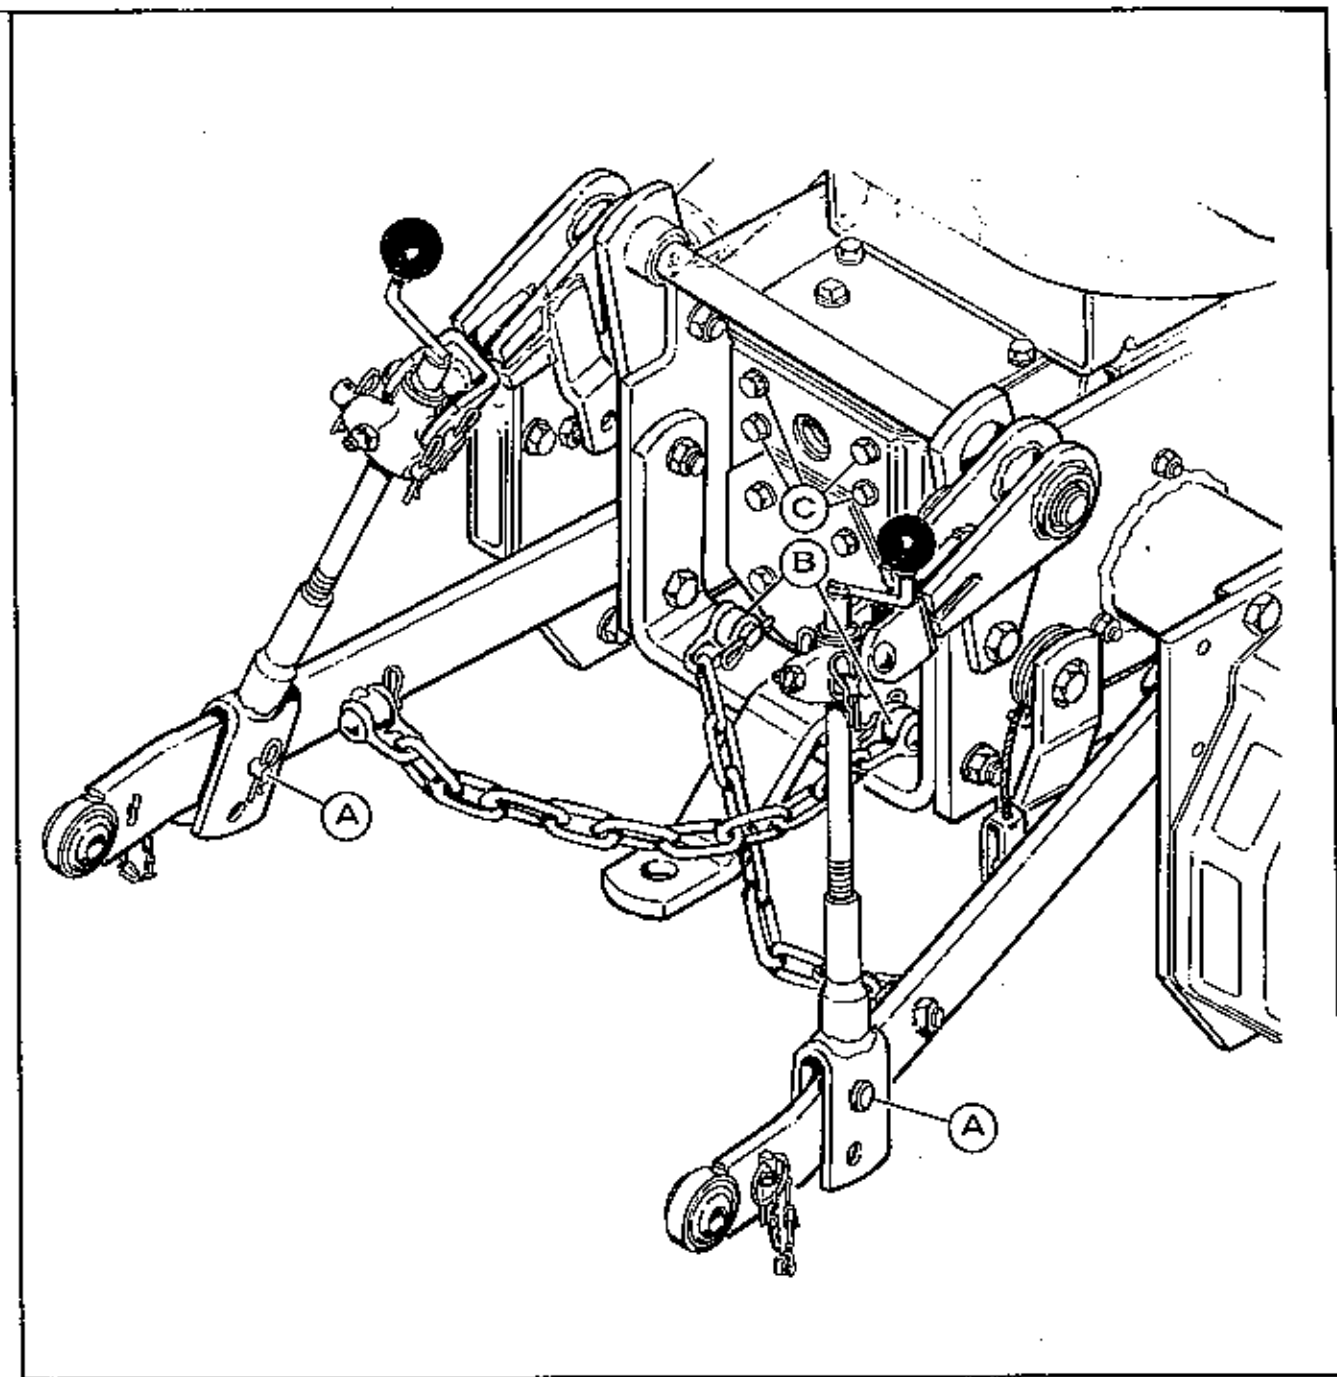
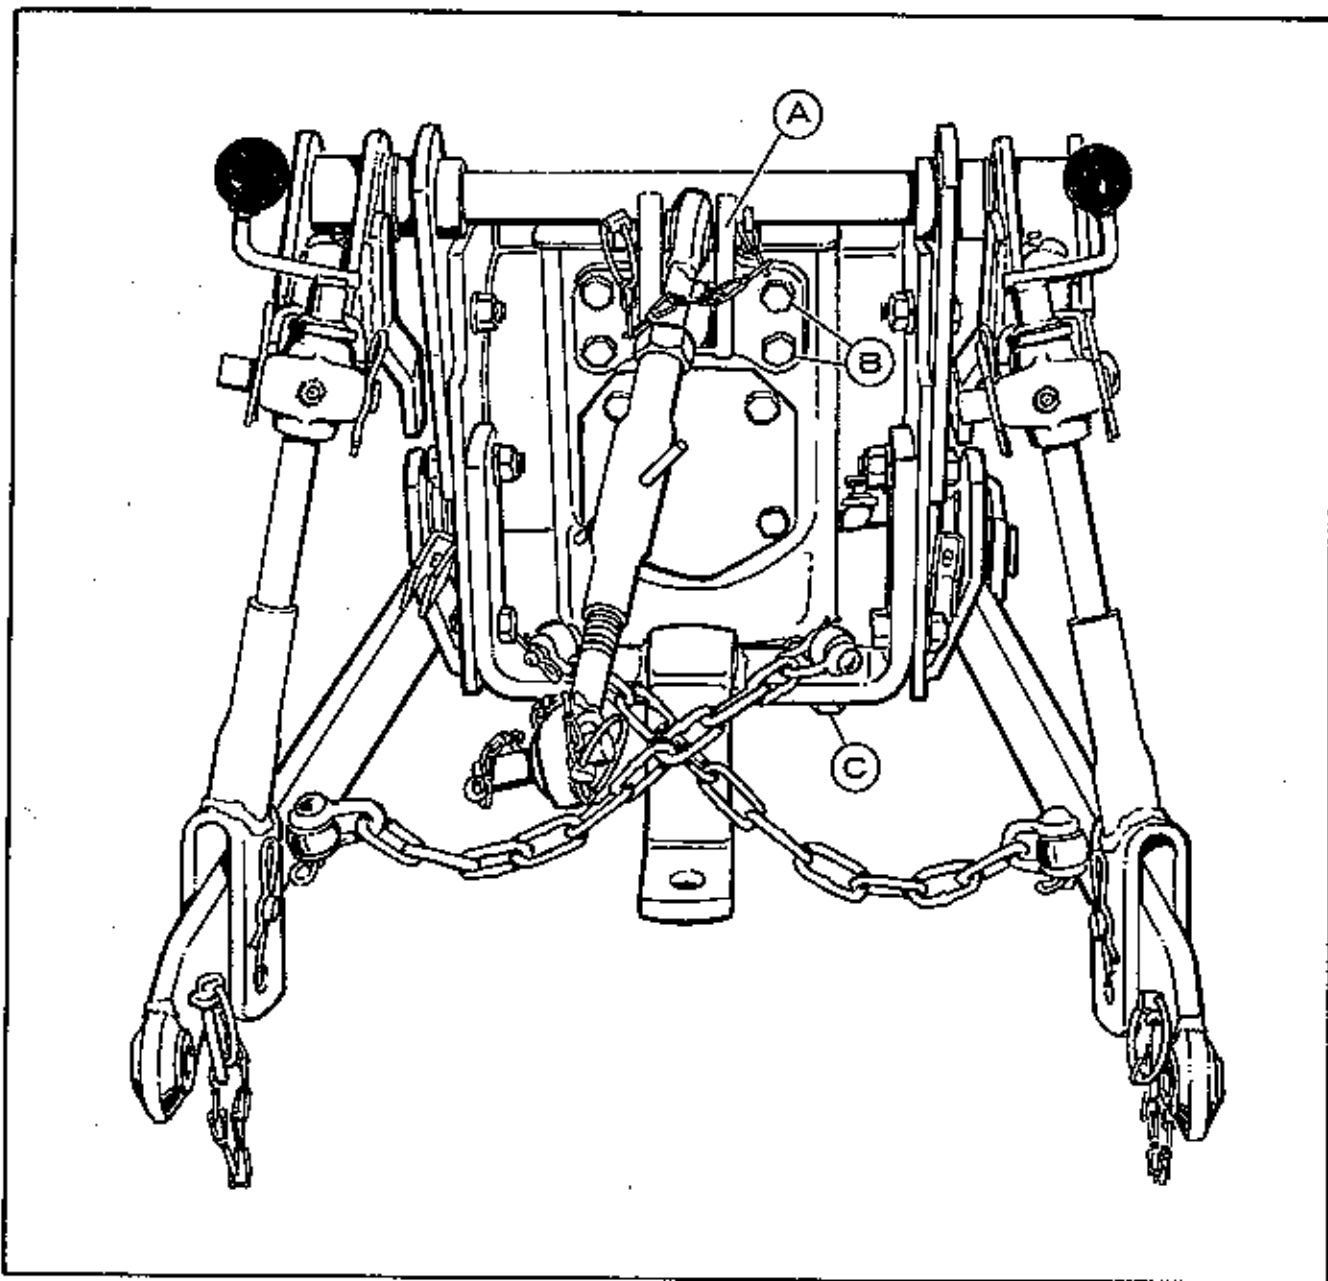

FIGURE 7
FIGURE 8
16. See figure 7. Attach the draft arms to the lift link as shown using the pins and spring clips (A). Fasten the restraining chains to the tractor drawbar, crossing them as shown and installing the eyebolts (B) from the top of the drawbar. When turning the 1/2" lock nuts (figure 8, item C) on the eyebolts allow enough clearance between the nut and drawbar so the eyebolts will be free to turn in the drawbar holes.
17. See figure 7. Remove the 4 capscrews (C) from the tractor transmission.
18. See figure 8. Install the turnbuckle link assembly (A) in position as shown and use 4 new 7/16"-14 x 1-1/4" lg. cap screws (B) and 7/16" lock washers to mount it in place. Tighten these cap screws to 50 foot pounds torque.
19. Figure 8 shows the three-point hitch completely installed and set up for most uses. For further information on the adjustment or use of the three-point hitch consult the 4040 owners manual or the manual for the attachment to be mounted on the 3 point hitch.